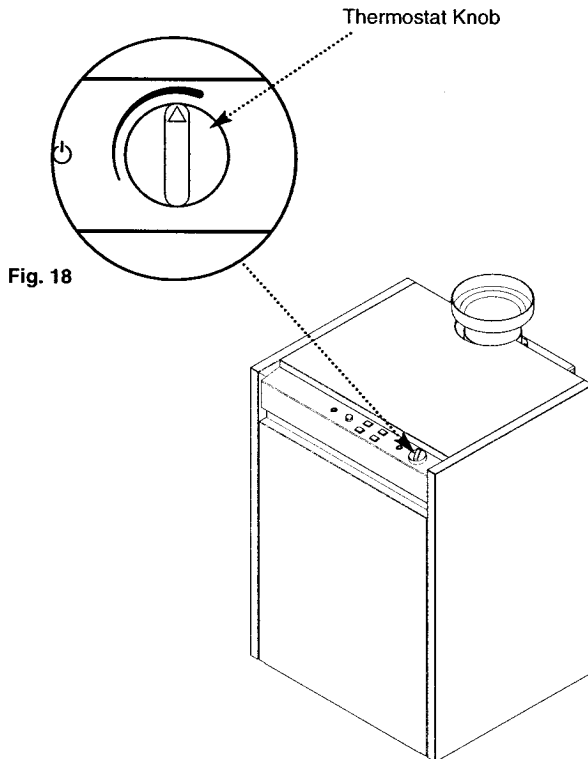

Fig. 18
3. Set the temperature control to maximum (Fig. 18).